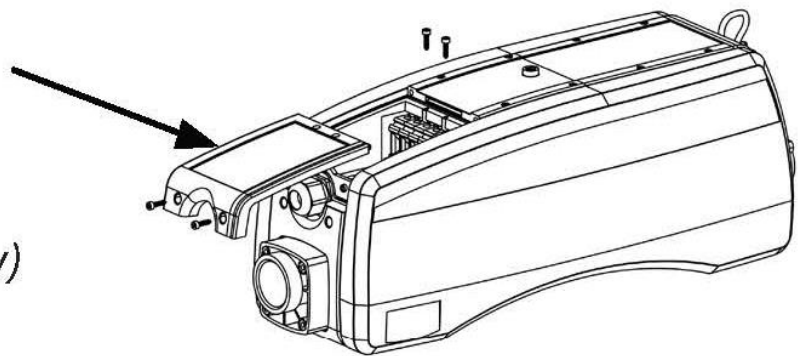

Fig. 7
- To connect the power supply cable, remove access cover (see Fig. 7).